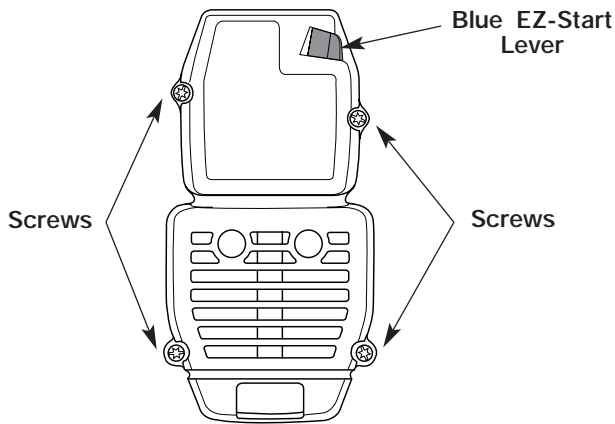

Fig. 26
1. Remove the four (4) screws securing the air filter/muffler cover (Fig. 26). Use a T20 Torx bit screwdriver.
2. Insert the four (4) screws into the holes in the air filter/muffler cover (Fig. 26) and tighten. **Do not over tighten.**